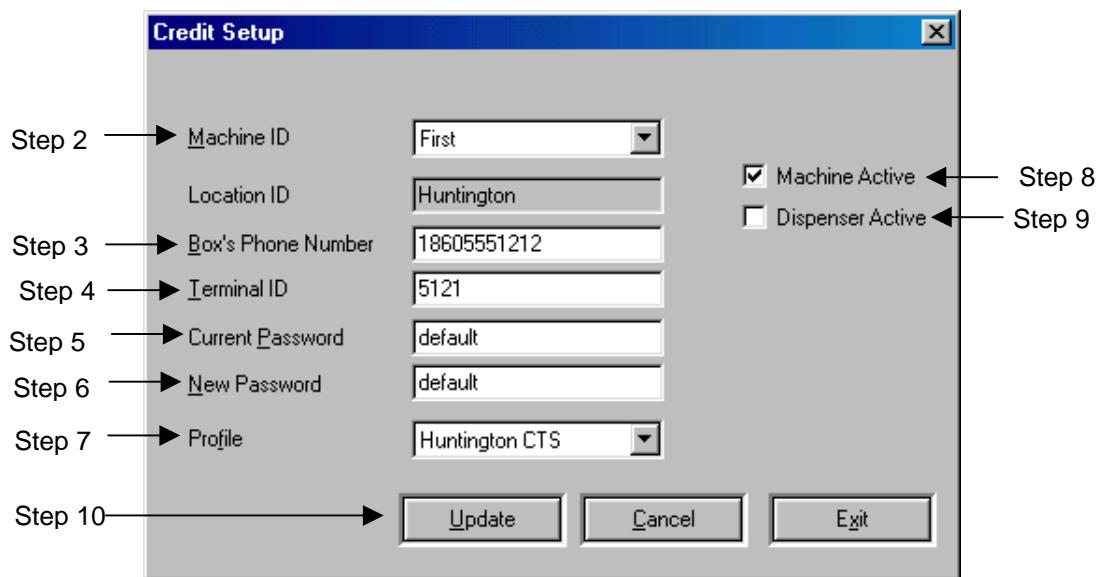

Figure 10.11 The Credit Setup Steps
2. Select a machine from the drop-down menu to setup or edit (Figure 10.11).
3. Enter the dial up phone number of the Credit CTS exactly as it is to be dialed (Figure 10.11).
4. Enter the Terminal ID (this number is assigned by the credit transaction clearing house being used) (Figure 10.11).
5. Enter the current password. If this is the first time the machine is being programmed enter ten zeros for the password (0000000000) (Figure 10.11).
6. Enter a new password if changing the password. If the password is not being changed, enter the password in Step 5 for verification (Figure 10.11).
7. Select a profile from the drop-down menu to be used for this machine (Figure 10.11).
8. Click on the Machine Active option to enable machine (Figure 10.11).
9. Click on the Dispenser Active option if machine model is equipped with a dispenser (Figure 10.11).
10. Click the update button to save the new information (Figure 10.11).